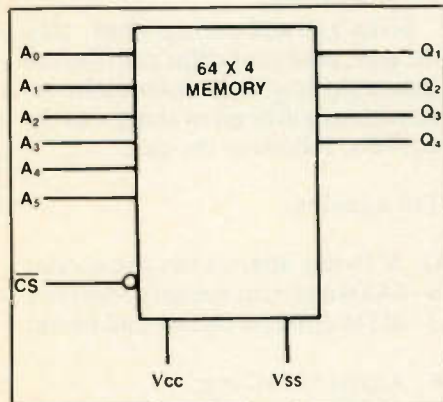

Figure 4
Y. The IC shown in Figure 4 is a: